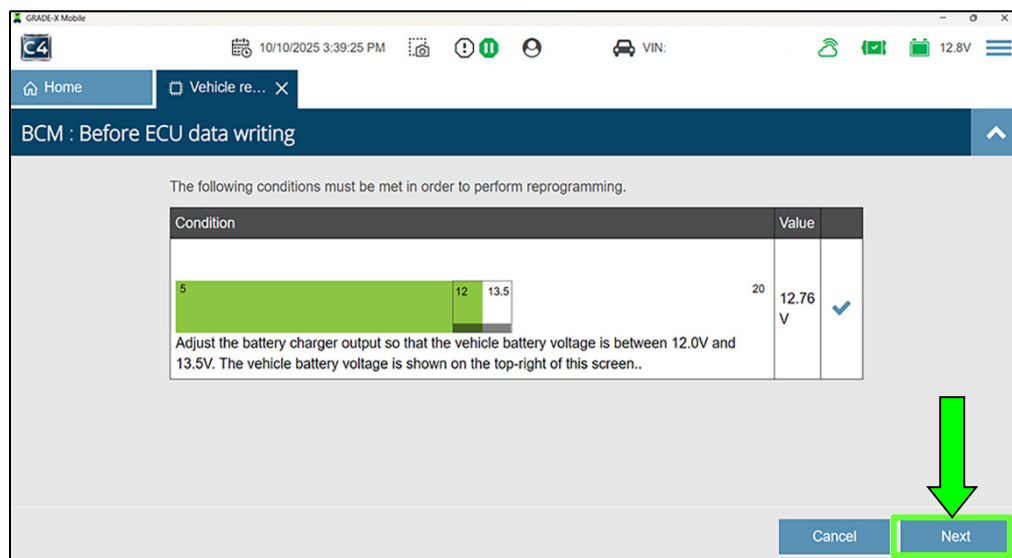

Figure 14
18. Verify the 12 volt battery is between 12.0V and 13.5V and select **Next** (Figure 14).